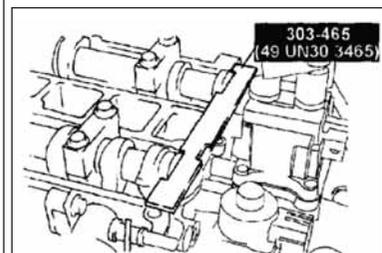

Figure 3 Install the camshaft alignment plate on 2.0 and 2.3L Mazda engines.
1) Install the camshaft alignment plate 303-465 to the camshaft as shown in **Figure 3** (page 24).
2) Install the M6 x 1.0 bolt by hand as shown in Figure 3.